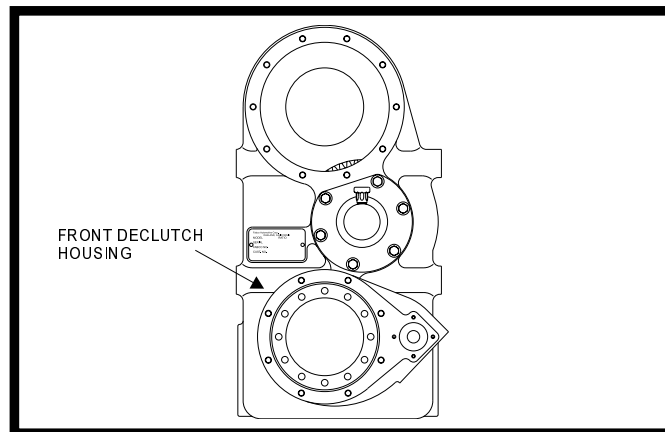

Fig 57
3. Insert the front bearing cup into its bore. Using the original shim pack, position the front declutch housing on the transfer case such that the shifter shaft bores are directly to the left of the lower shaft bore (as viewed when the unit is installed in the vehicle). See Figure 57. Install the (6) 12-point cap screws and torque to specification.